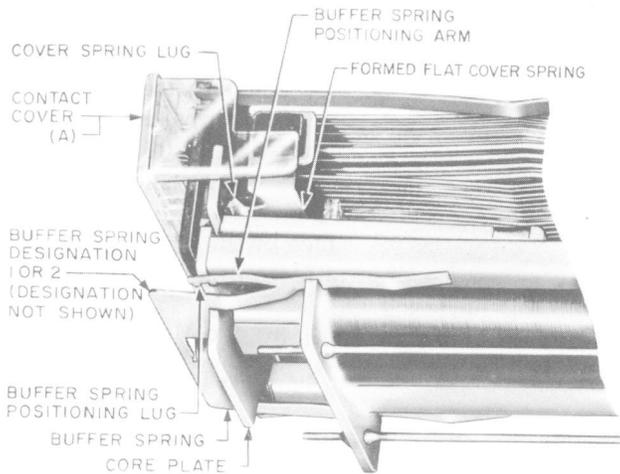

Fig. 1—AL Type Relay Showing Contact Cover and Buffer Spring
2.04 Contact Cover Tightness: Fig. 1(A)—The contact cover shall be held firmly in place.